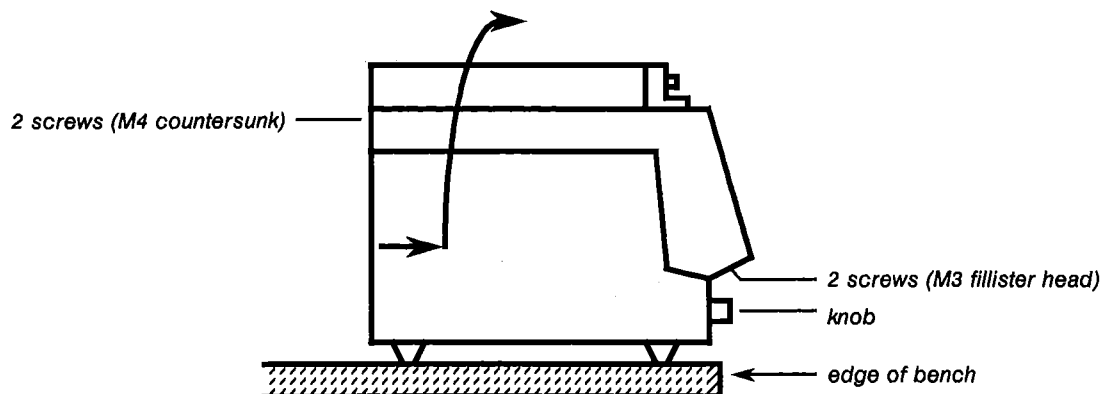

Fig. 1
- Slide the unit to the edge of bench, so that the M3 screws can be removed (Fig. 1)
- Lift off upper part of unit together with exchange unit by movements as shown in Fig. 1.